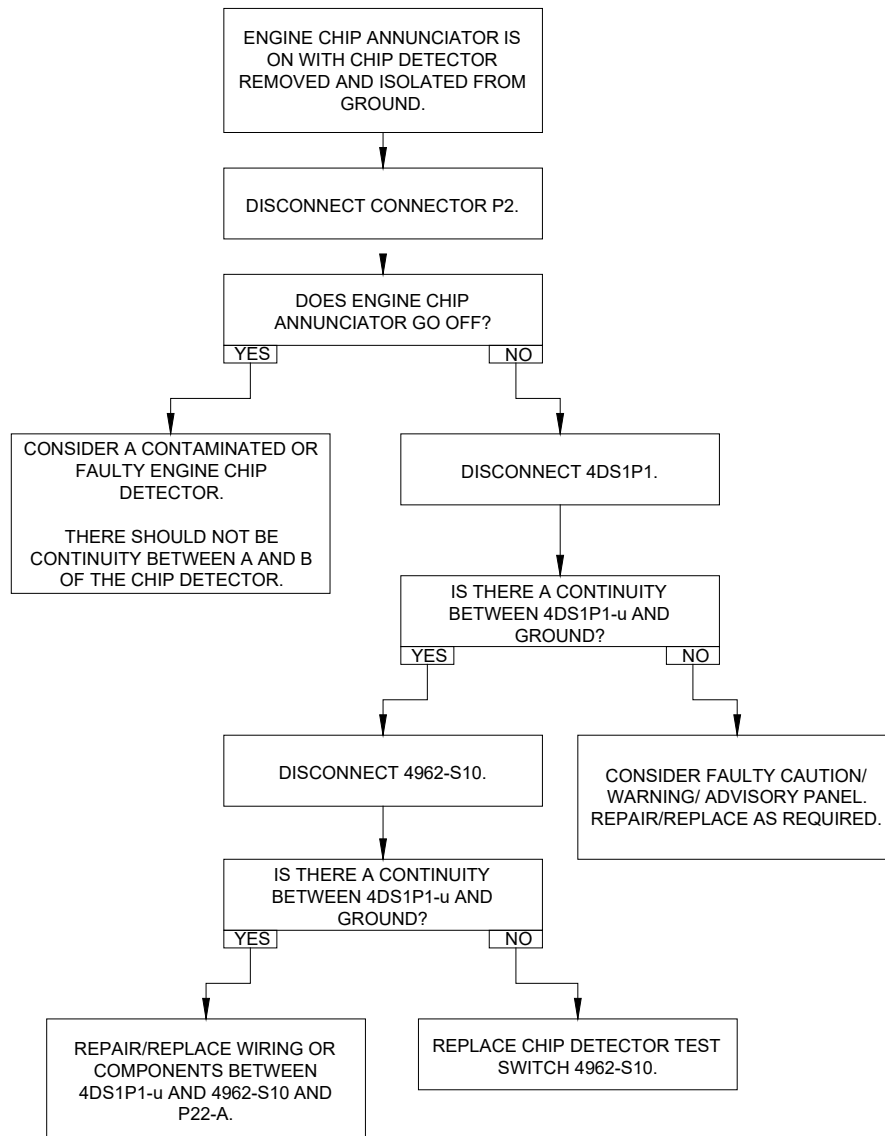

Figure 96-74: ENGINE CHIP Annunciator Circuit – Trouble No. 1
- If the ENGINE CHIP annunciator is on (a ground signal is supplied to the annunciator), refer to Trouble No.1 (Figure 96-74).
- If the ENGINE CHIP annunciator is on (a ground signal is supplied to the annunciator), refer to Trouble No. 1 (Figure 96-74).